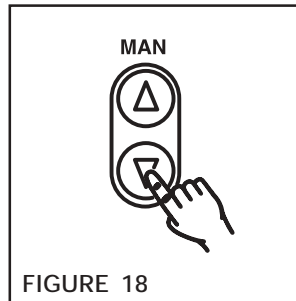

FIGURE 18
4. Press the **MAN**ual Key to increase or decrease the function setting shown on the digital display (See Figure 18).